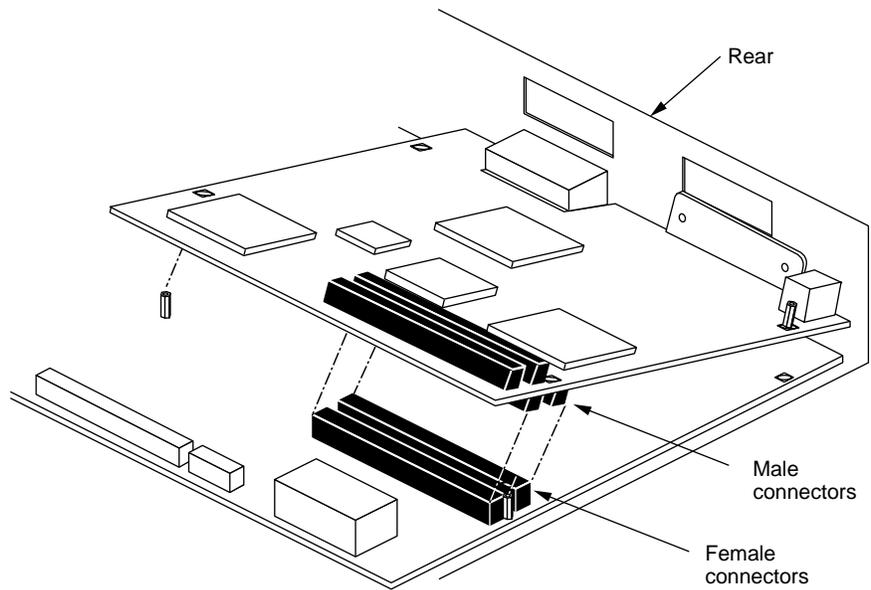

Figure 1-31 Positioning the Z Board Over the System Board
- Grasp the Z board by the sides, with the two 96-pin male connectors on the underside, as shown in Figure 1-31.
- Loosely place the Z board on top of the system board so that the two male connectors on the underside of the Z board align with the two female connectors on the system board, as shown in Figure 1-31.